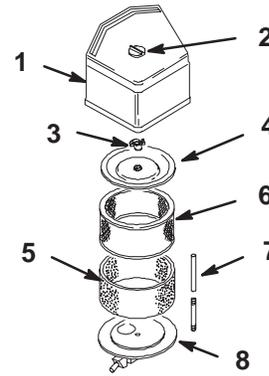

Figure 19
3. Clean around the air cleaner to prevent dirt from getting into the engine and causing damage. Remove knob and the air cleaner cover (Fig. 19).
4. Carefully slide the foam element off the paper element (Fig. 19).
5. Unscrew the cover nut and remove the cover and paper element (Fig. 19).
1. Carefully slide the foam element onto the paper air cleaner element (Fig. 19).
2. Slide the air cleaner assembly and cover onto the long rod. Now screw the cover nut finger-tight against the cover (Fig. 19).
3. Install the air cleaner cover (Fig. 19).